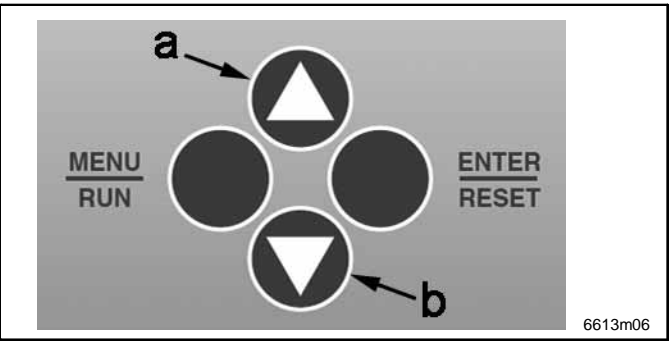

Fig. 21 Operating panel
As soon as you press the "UP" key (pos. a, Fig. 21) outside of the configuration mode, the actual rest of the expired pause time is shown in the display.
The version number setting (0 - 5) is shown in the LMC 1 display and is made using the UP & DOWN keys on the operating panel (see pos. a & b, Fig. 21).
- Complete your selection (0 - 5) with the ENTER key (Fig. 21).